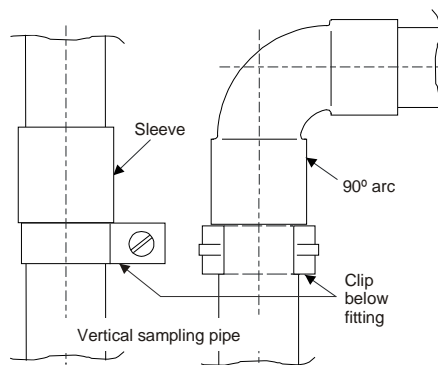

Fig. 21 Vertical sampling pipe
- If the sampling pipe or parts thereof is laid out vertically (e.g. in a riser or high-rack storage facility), make sure the tubes cannot slide down (secure clips directly below the fittings as shown in **Fig. 21**).